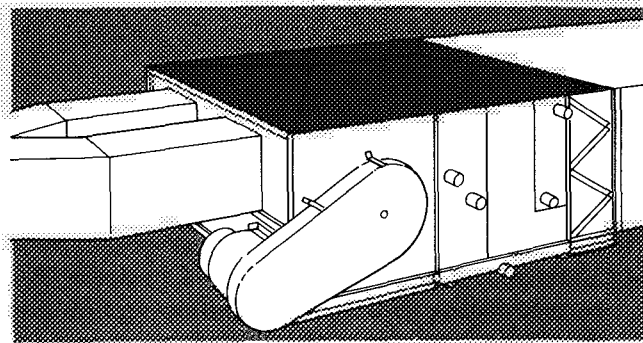
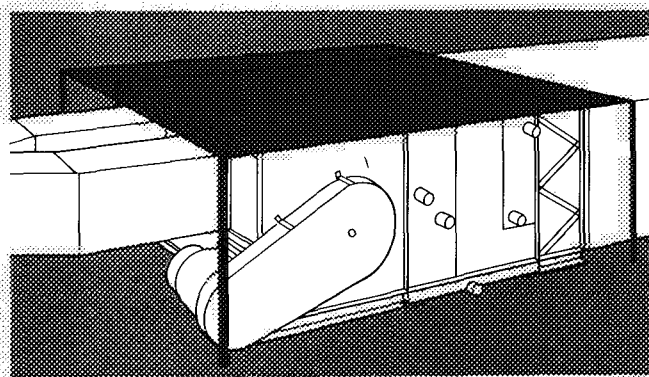

Fig. 12 – Crowned-Type Protection Cover – Field-Supplied
Fig. 13 – Shed-Type Protection Cover – Field-Supplied
3. Install a crowned waterproof cover on top of unit to prevent water from collecting or leaking into unit per Fig. 12. A shed-type cover (Fig. 13) can be used as an alternate.